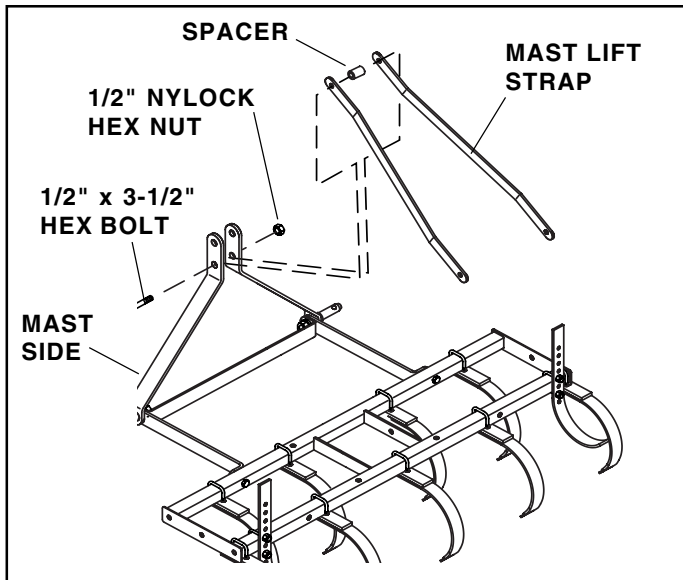

FIGURE 4
4. Arrange the mast lift straps as shown in figure 4. Place the straps and the spacer between the mast sides, fastening them to the lower hole in the mast sides using a 1/2" x 3-1/2" hex bolt and 1/2" Nylock hex nut. **Do not tighten yet.**